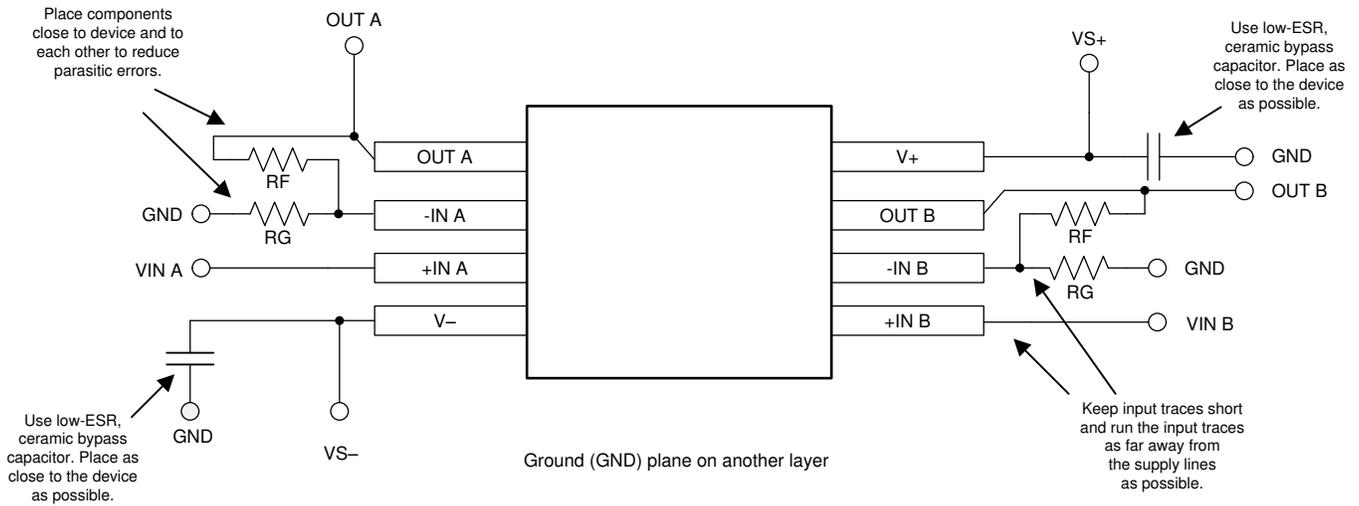

图 57. Layout Example
- Place the external components as close as possible to the device. As illustrated in Figure 57, keeping RF and RG close to the inverting input minimizes parasitic capacitance.